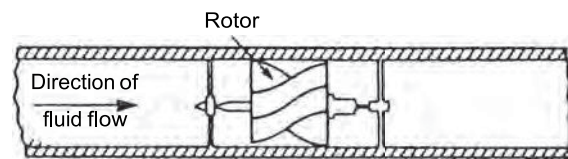

Figure 24.9
- (c) A **turbine flowmeter** contains in its construction a rotor to which blades are attached which spin at a velocity proportional to the velocity of the fluid which flows through the meter. A typical section through such a meter is shown in Figure 24.9. The number of revolutions made by the turbine blades may be determined by a mechanical or electrical device enabling the flow rate or total flow to be determined. Advantages of turbine flowmeters include a compact durable form, high accuracy, wide temperature and pressure capability and good response characteristics. Applications include the volumetric measurement of both crude and refined petroleum products in pipelines up to 600 mm bore, and in the water, power, aerospace, process and food industries, and with modification may be used for natural, industrial and liquid gas measurements. Turbine flowmeters require periodic inspection and cleaning of the working parts.